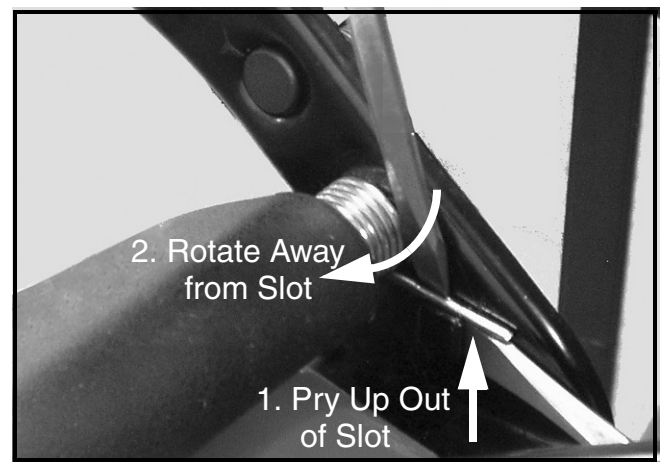

FIGURE 5
13. Refer to Figure 5. Using two thin flat blade screw drivers, unhook the rear door's left side torsion spring leg from the handle bracket. Do the same for the right side torsion spring.